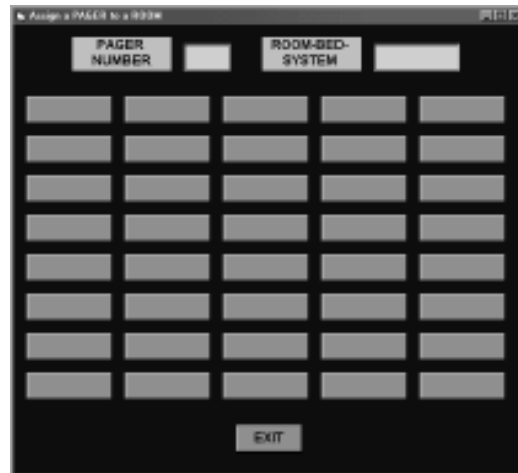

Figure 36: Assign a Pager to a Room
9. Refer to *Figure 36* for the ASSIGN a PAGER to a ROOM menu that will appear.